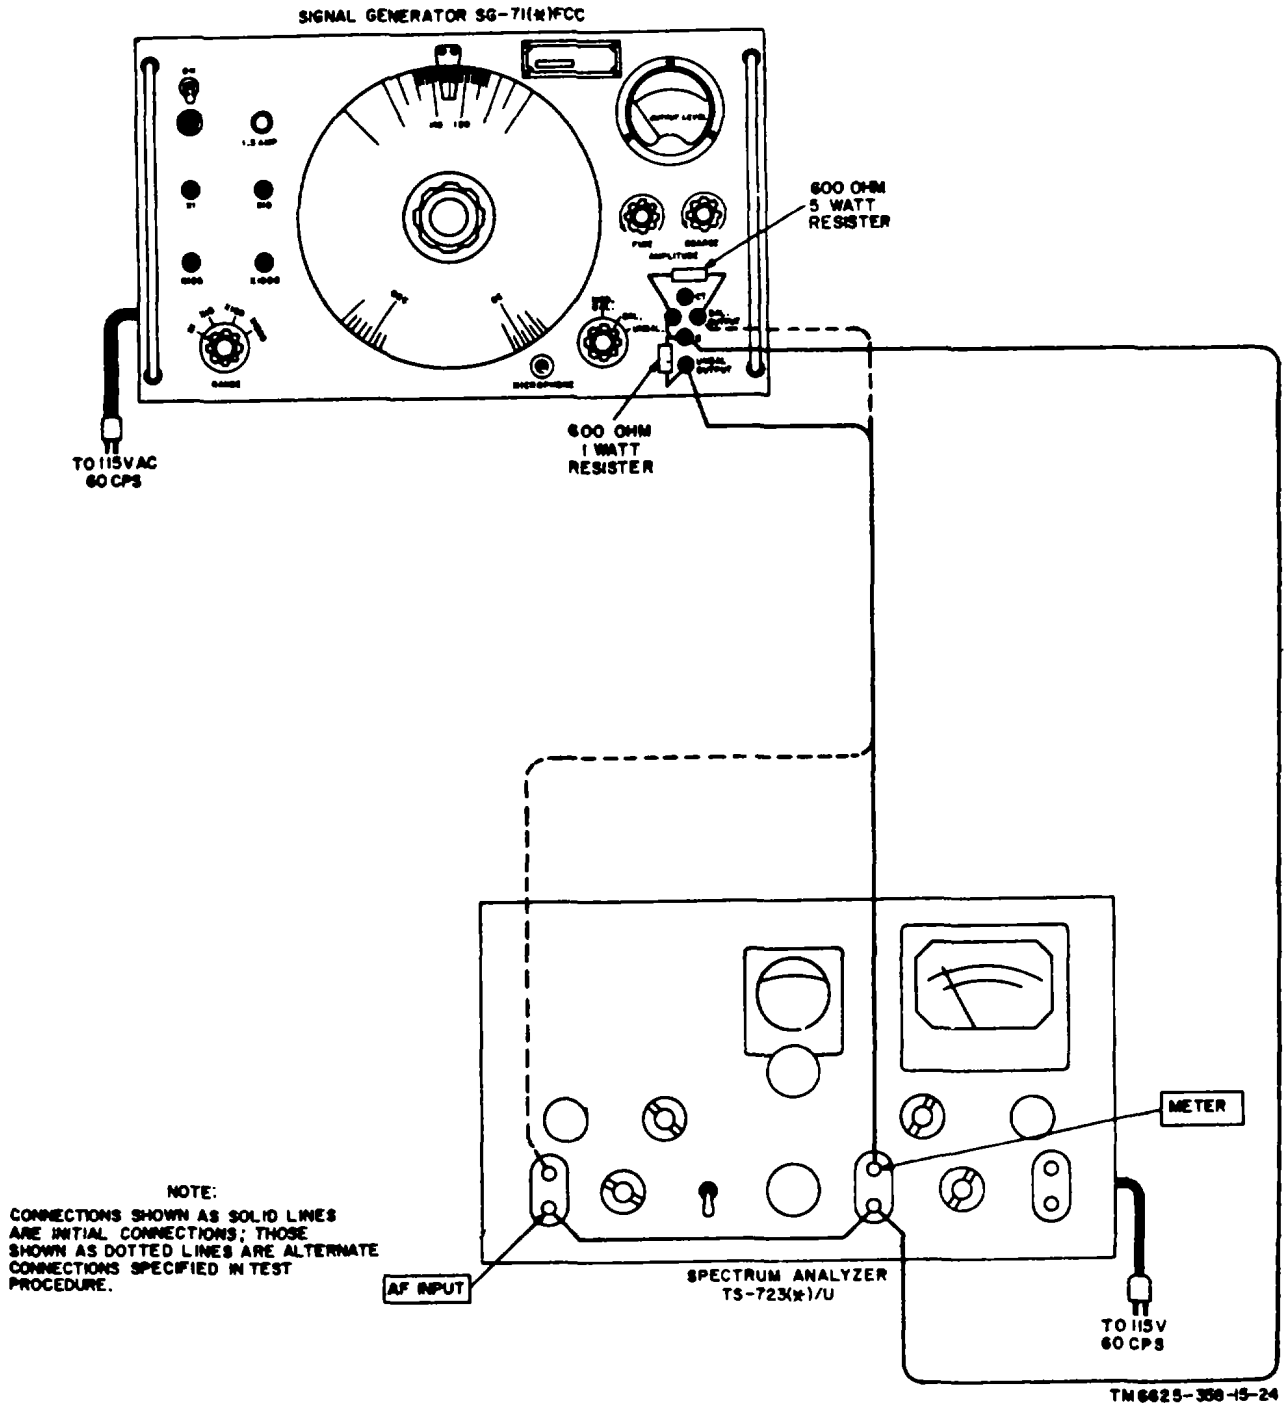

Figure 8-4. Distortion, test setup.
- (1) Connect the equipment as shown in figure 8-4.
- (2) Allow the equipment to warm up for at least 20 minutes before the test procedures is started.